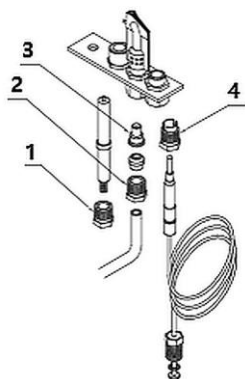

Fig. 9
- Loosen the spark plug nut (1, Fig. 9).
- Unscrew the screw cap (2).
- Remove the ignition burner nozzle (3).